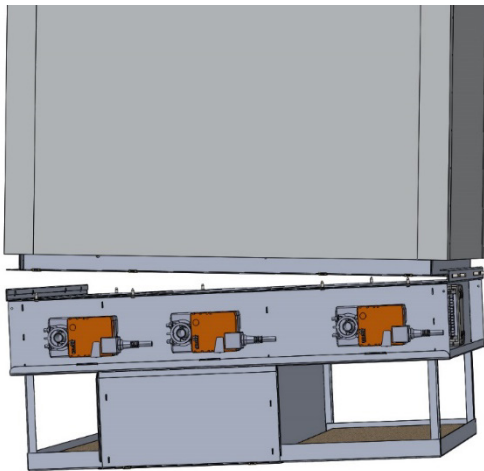

Figure 47 – Internal diffuser orientation.
1. Hook the internal diffuser on to one side of the heat exchanger housing (flat roof application or extension piece (extended height/pitched roof application) ensuring the arrows are aligned – see figure 47 and 48.